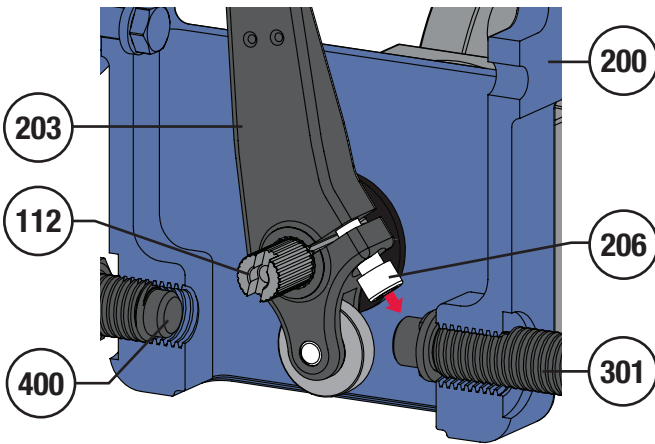

Figure 14 Lever Cap Screw Loosening
- 10 Loosen the lever cap screw (Key 206). Refer to Figure 14.